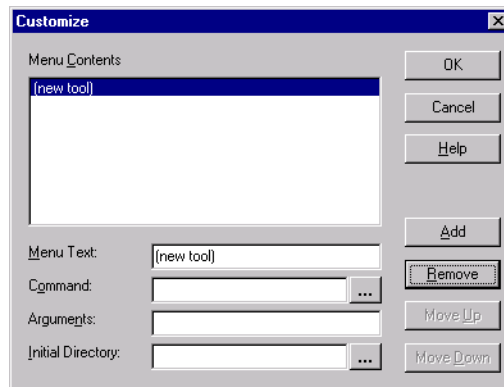

Figure 2-50. *Customize* Dialog Box
1. **From the Tools menu, click *Customize*.** The customize dialog box is displayed as shown in Figure 2-50.